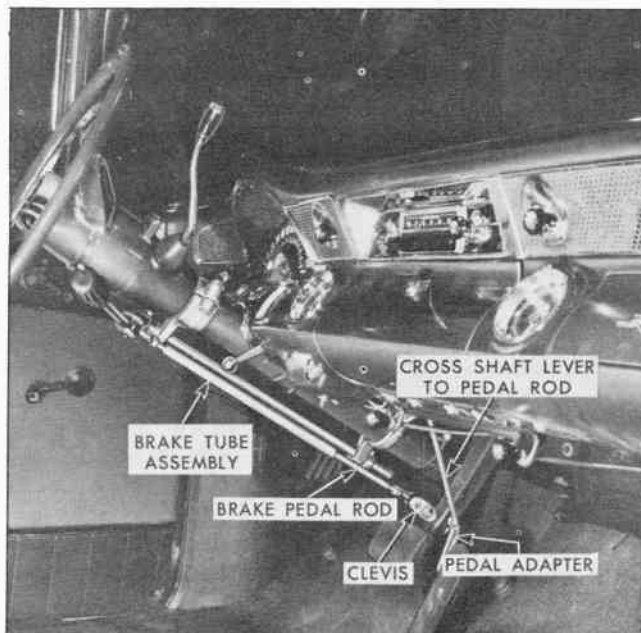

Fig. 4 Brake Tube Assembly in Position
12. On power brakes install clevis (521123) in 13/32" hole drilled in step 8 and assemble brake rod to clevis (See Fig. 4).
14. Assemble brake tube assembly over brake assembly and then to upper end of accelerator shaft using special 5/16" bolt and lock washer (See Fig. 4).
15. Install accelerator shaft to lever rod (519025) between accelerator shaft idler lever and cross shaft bracket lever (See Fig. 4).
17. Install accelerator cross shaft lever to pedal rod assembly (521127) between accelerator pedal adapter and accelerator cross shaft bracket lever (See Fig. 4).